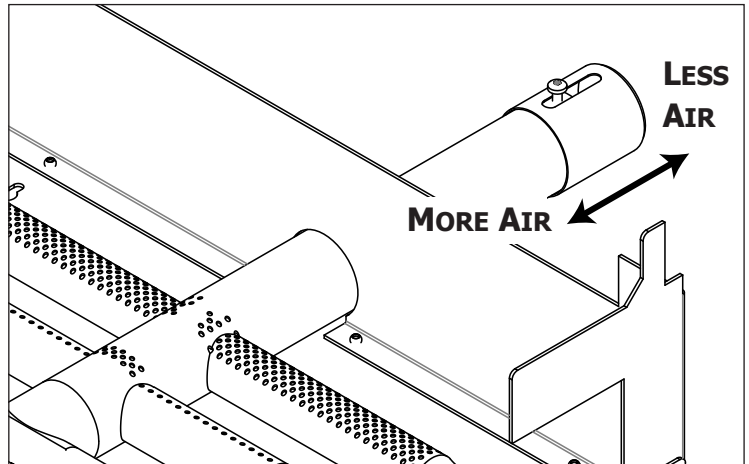

Figure 12: Burner Shutter Adjustment
2. At the back of the burner (where the burner connects to the burner orifice), there is a single philips head screw that should be loosened. This will allow for adjustment of the burner cap (see Figure 12).